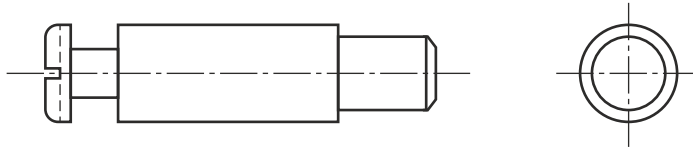

Figure 6
- (d) Apply the British Standard conventions for the screw threads in each view in Figure 6 below. 2